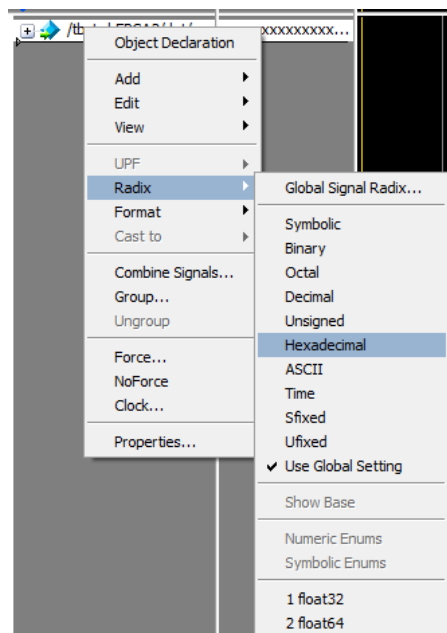

Figure 15. Hexadecimal Signal
35. For easier reading, you can display the signals in hexadecimal format, as shown in Figure 15.